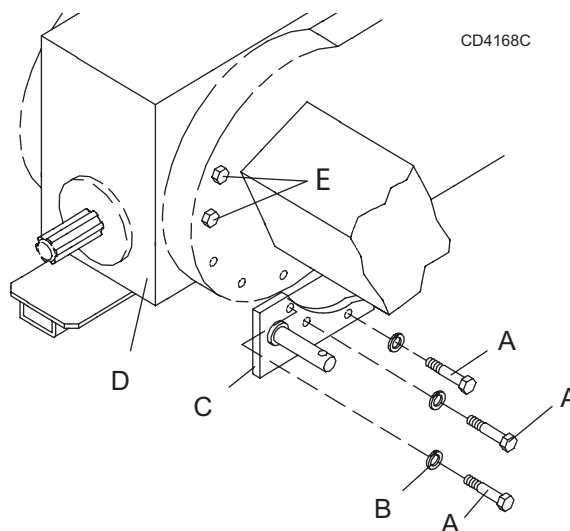

Figure 1. Remove Lift Arm Brackets and Hardware
6. Remove cap screws (A) and lock washers (B) from both tractor lift arm brackets (C) on rear axle housing (D). Save hardware. See Figure 1.
7. Remove two additional axle housing cap screws (E) above the lift arm brackets as shown.